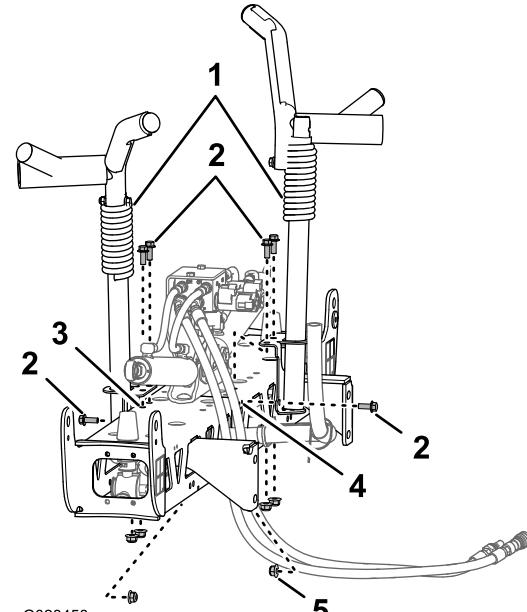
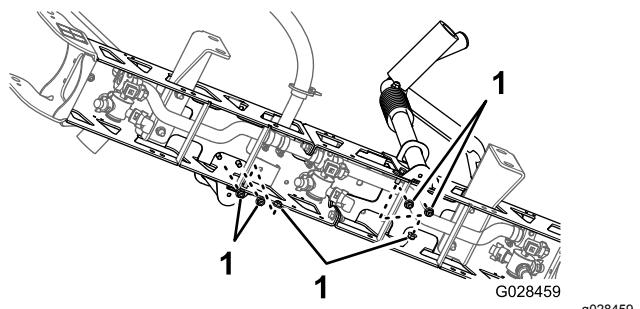

Figure 37
Figure 38
3. Assemble the cradles to the boom section (Figure 37 and Figure 38) with 6 bolts (3/8 x 1 inch) and 6 flanged locknuts (3/8 inch).